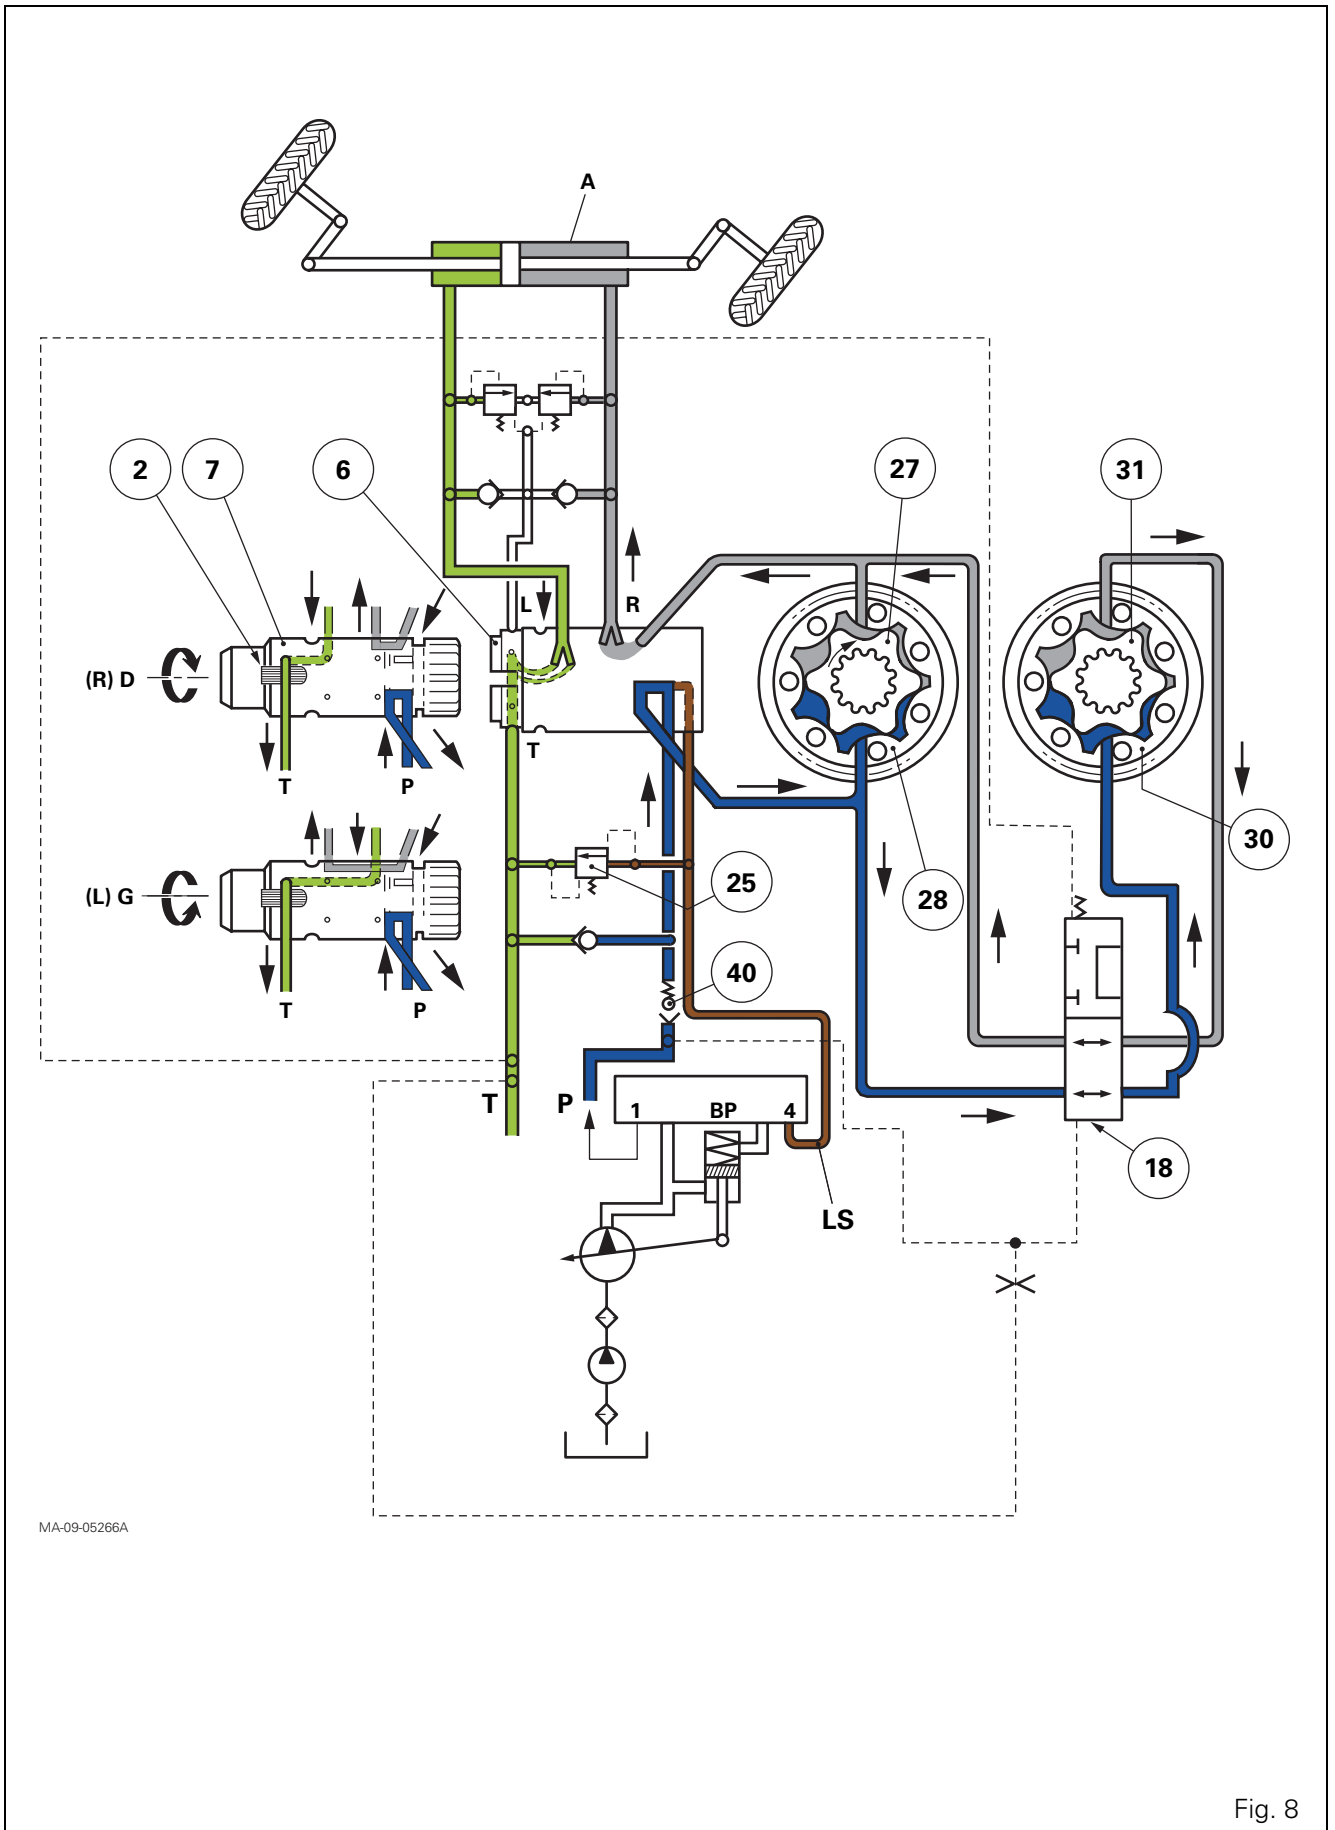

Fig. 8
Action on the steering wheel (to the left or right) (Fig. 8) produces an angular displacement of the spool valve (7) in relation to the sleeve (6) and the opening of the closed Orbitrol circuit.
Example: Let us suppose that the steering wheel is turned by 5°. An angular displacement of 5° of the spool valve (7) is produced in relation to the sleeve (6). The rotors (27) (31) are driven in rotation as long as they are supplied with pressurised oil. They drive with them the link shaft (9) (Fig. 3, Fig. 4) and the sleeve (6). When the latter have turned 5°, the spool valve (7) and the sleeve (6) are once again centred by the springs (2) (Fig. 8). The rotors cease to be supplied and stop.
Legend (Fig. 8)